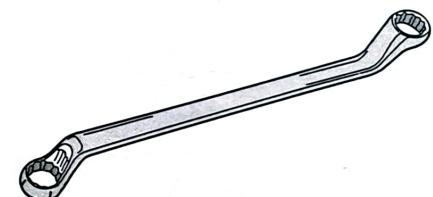

Fig. 1.32. (b) Ring spanner.
**3. Combination spanner :** It is also known as open-ring spanner. A combination spanner is a double-ended spanner with one end like an open-end spanner and the other end like a ring spanner. Both ends generally fit the same size of nut or bolt. [See Fig. 1.32 (c)]